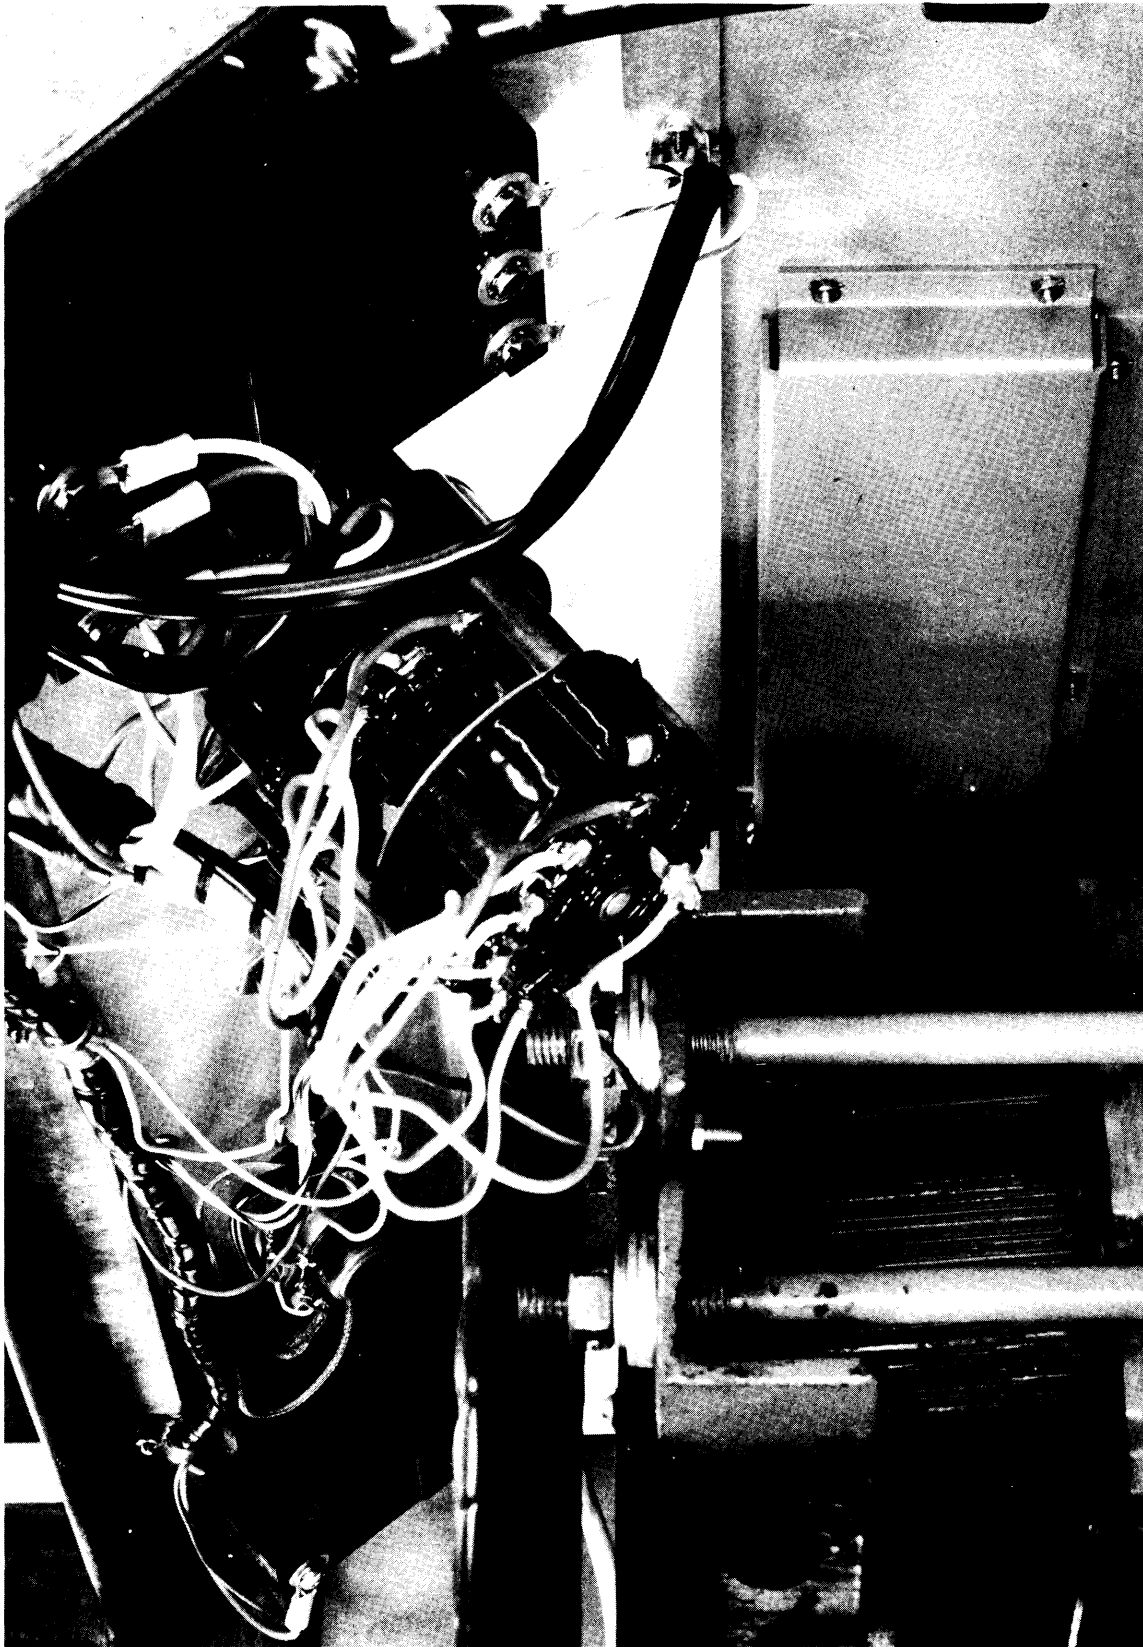

Figure 4-1-12. Rear View, Power Supply Control Panel, GPT-40K
i. **POWER SUPPLY CONTROL PANEL.** (See figure 4-1-12.) - Figure 4-1-12 shows the rear assembly of the power supply control panel which is also visible in photograph 2 of figure 4-1-10.